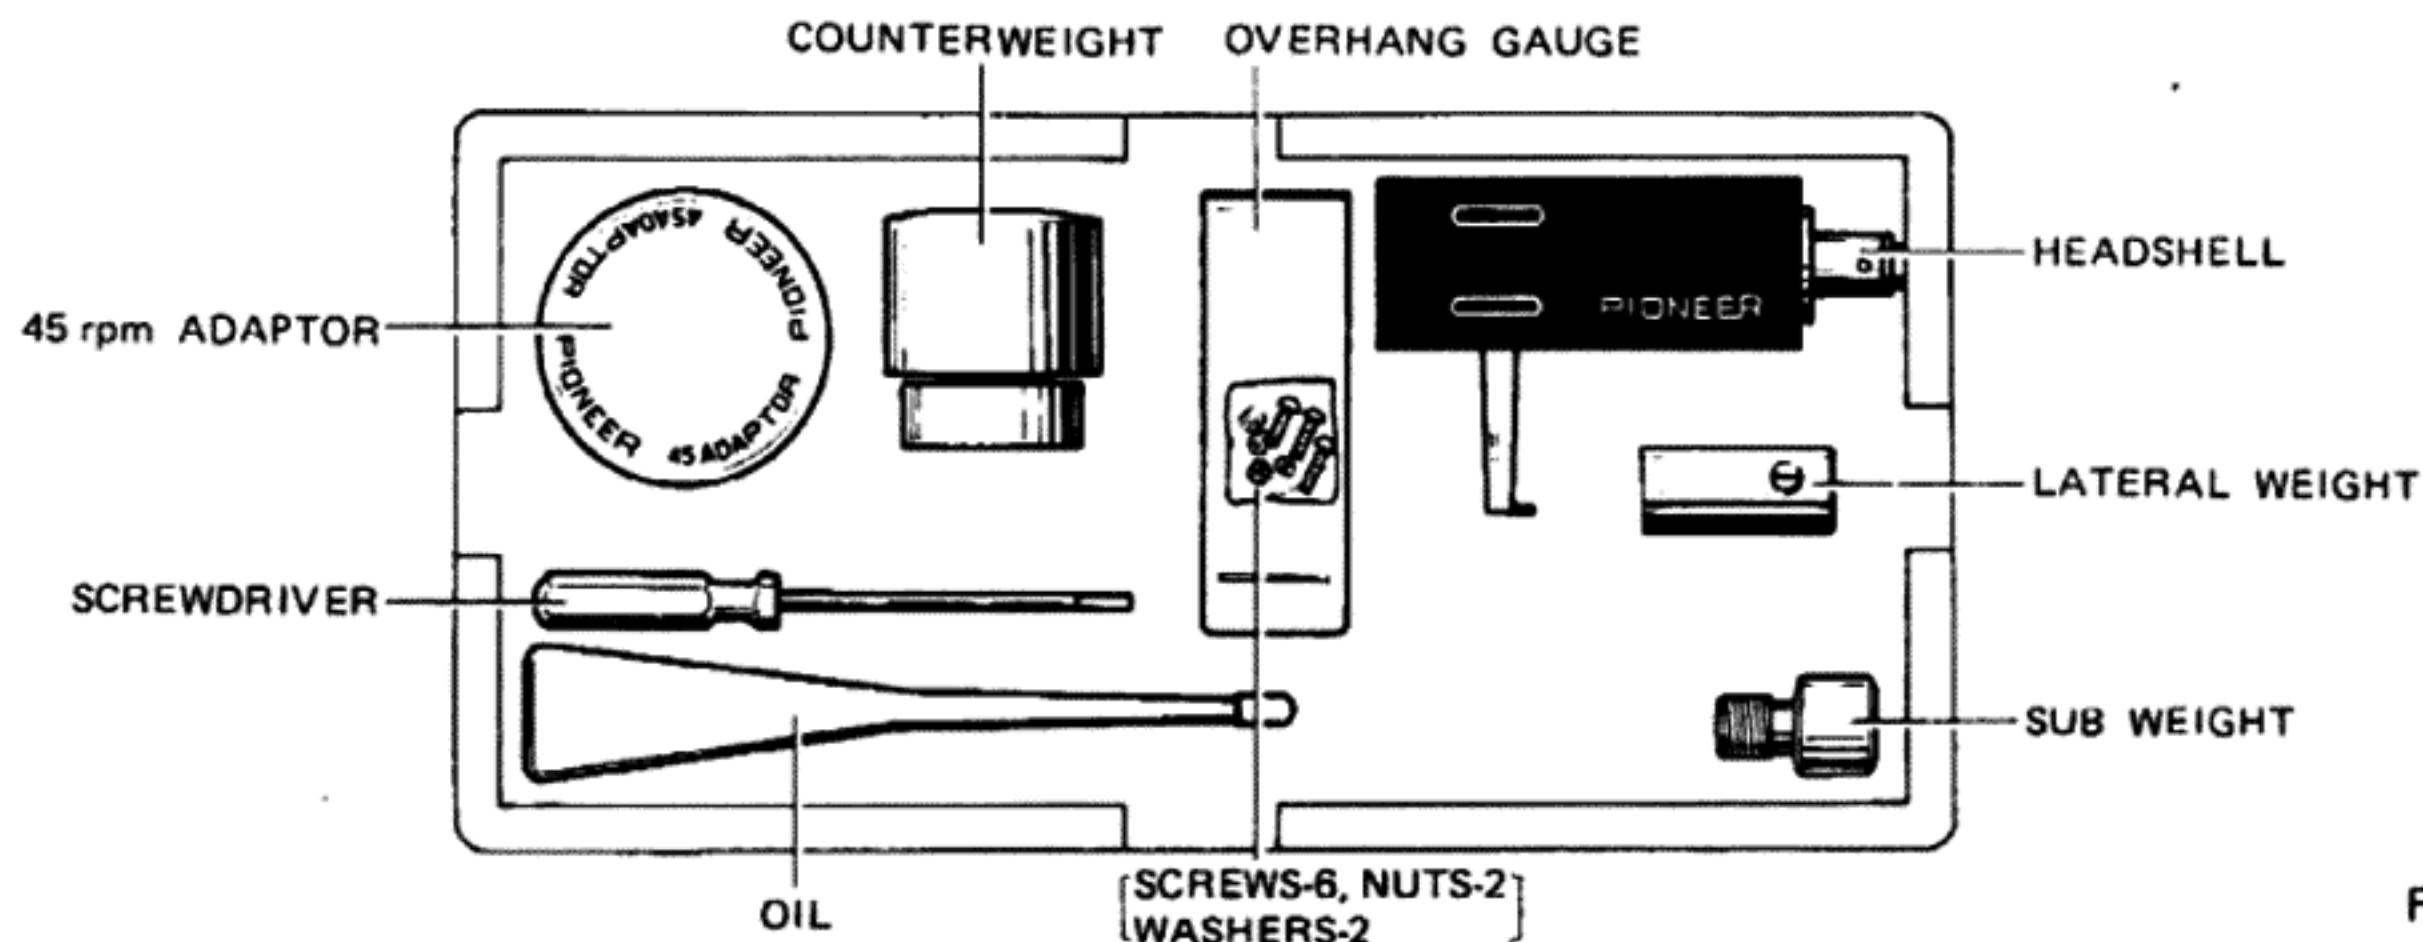

Fig. 4
1. When attaching cartridge to the accessory headshell, use the headshell, screwdriver, overhang gauge, screws, nuts and washers supplied in the accessory box (Fig. 4).